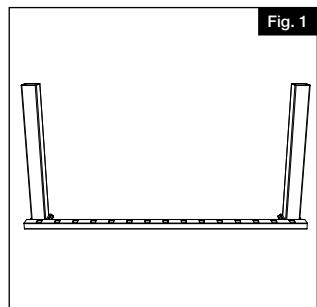

Fig. 1
- Place bottom rail across post opening leaving equivalent spacing from the last baluster and post on each end (Fig. 1).